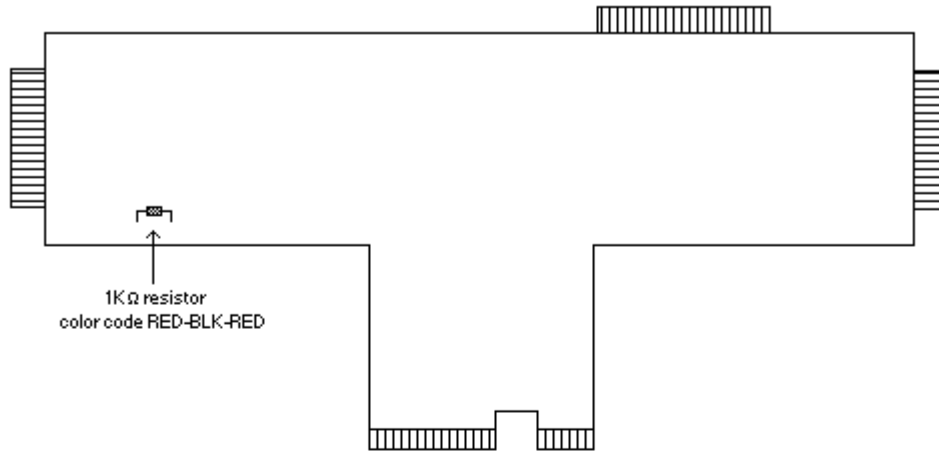

Figure 2
- 2) Turn your Black Box upside-down. Orient the Black Box so the part that plugs into your computer is towards you. Look on the left side of the board, near the bottom. Some Black Boxes have a 1K $\Omega$  resistor soldered between two pins. Cut this resistor (see Figure 2 on the next page).